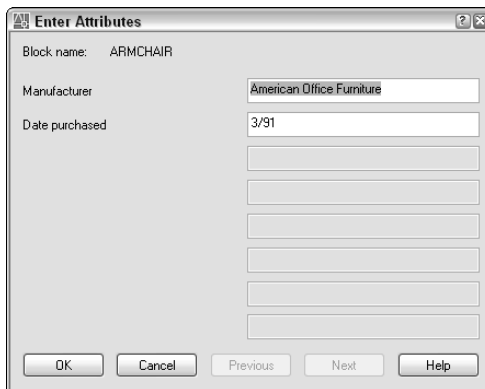

Figure 18-33: The Enter Attributes dialog box.
5. Pick a point in front of the desk (turn off OSNAP if necessary) to insert the armchair, and open the Enter Attributes dialog box, as shown in Figure 18-33. The values that were entered when the attributes were defined are displayed, but you can change them.